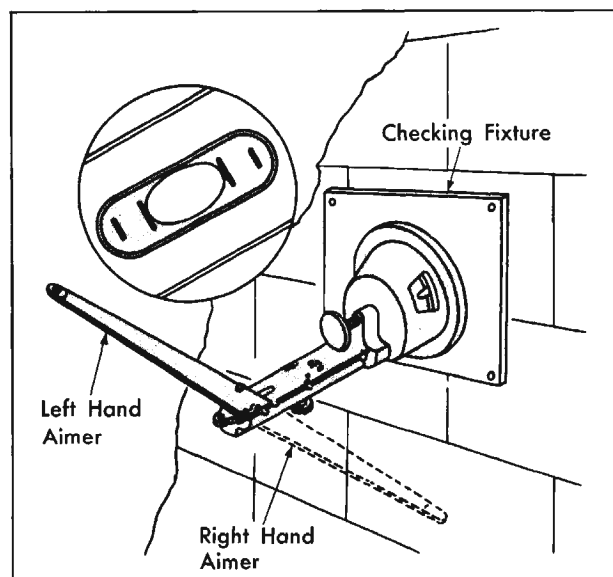

Fig. 14-73 Checking Vertical Calibration
1. With the numeral 2 in the "down" window of the aimer, hold the aimer retaining ring against the three screws in the checking fixture and with the horizontal arm parallel to the floor as shown in Fig. 14-73. If the bubble is centered, the aimer is vertically calibrated.